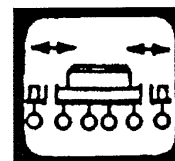

fig.16
4.6 De toets "in- of uitklappen" (fig.16)